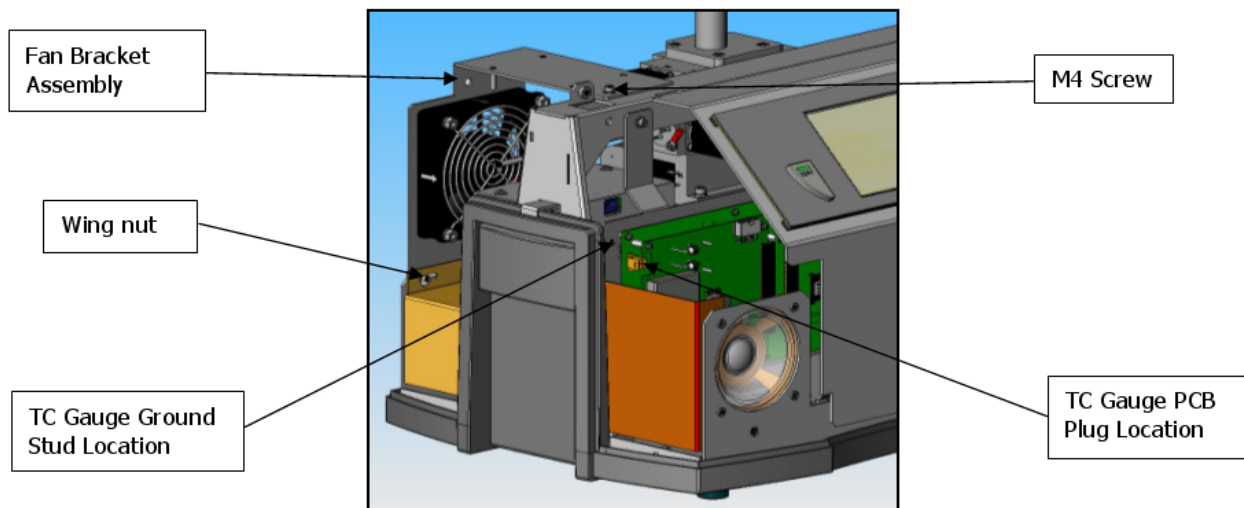

Figure 2: Fan and TC Gauge Assemblies
5. Disconnect the fan cable and remove the fan assembly by unfastening two wing nuts and one M4 socket head cap screw (Figure 2: Fan and TC Gauge Assemblies).
13. Attach the TC gauge cable plug and chassis ground to the location shown in Figure 2: Fan and TC Gauge Assemblies.
14. Attach the fan assembly (Figure 2: Fan and TC Gauge Assemblies) by fastening the two wing nuts and one M4 socket head cap screw. Then connect the fan cable to the unit.